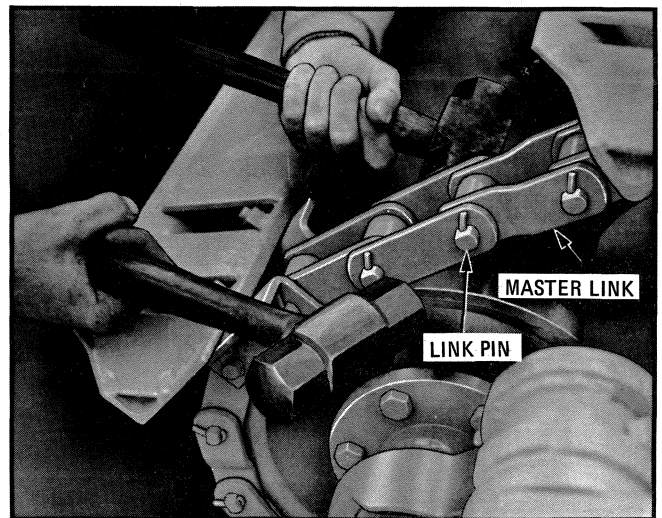

Fig. 1—Parting Chain
1. Part the chain at the master link nearest the tail roller on each side of the chain. See Fig. 1 and the accompanying instructions.